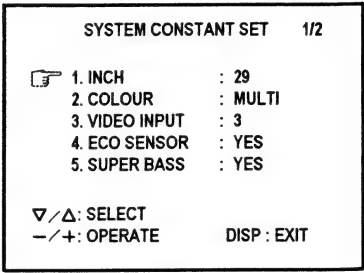

Fig. 2
1. While pushing down the claws marked **C**, remove the CONTROL BASE in the arrow direction marked **D** as shown in Fig. 2.
3) While the SERVICE MENU on display, press the DISPLAY key and PICTURE MODE key simultaneously, and the SYSTEM CONSTANT SET screen of Fig. 2 will be displayed